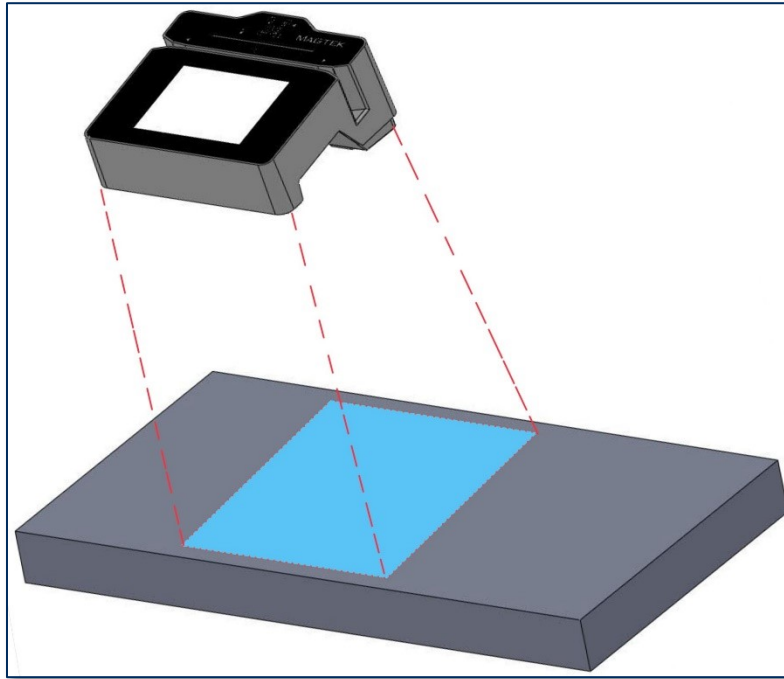

Figure 3-7 - Mounting DynaFlex onto a Nonporous Surface
2. Mount DynaFlex II devices onto a smooth, flat, and non-porous surface by pressing the device firmly using the adhesive mounting strips (see **Figure 3-7**).